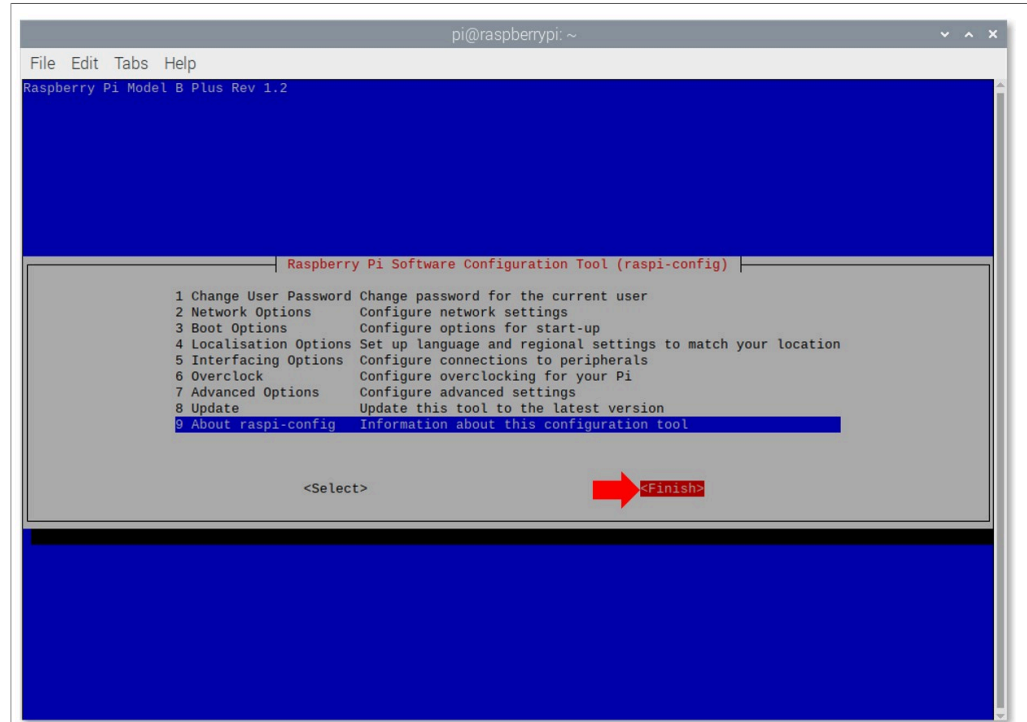

Figure 9. Close the Raspberry Pi software configuration tool
6. Close the Raspberry Pi software configuration tool. Use the left and right arrow keys to select the Finish option and then press Enter, as shown in Figure 9: